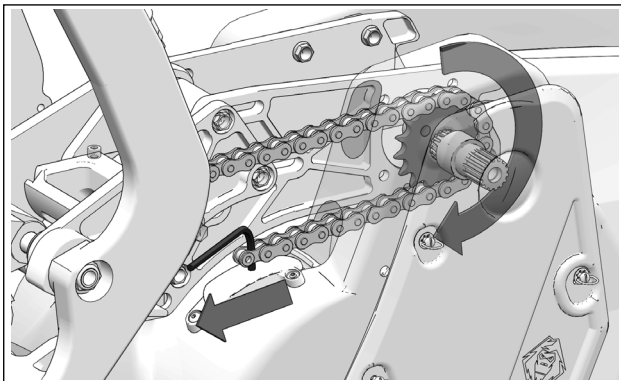

Figure 27
- Slowly rotate the YETI's track to advance chain links on the sprocket. Use a hook or magnet to extract the chain out of the chassis through the lower opening at the front. See Figure 27.